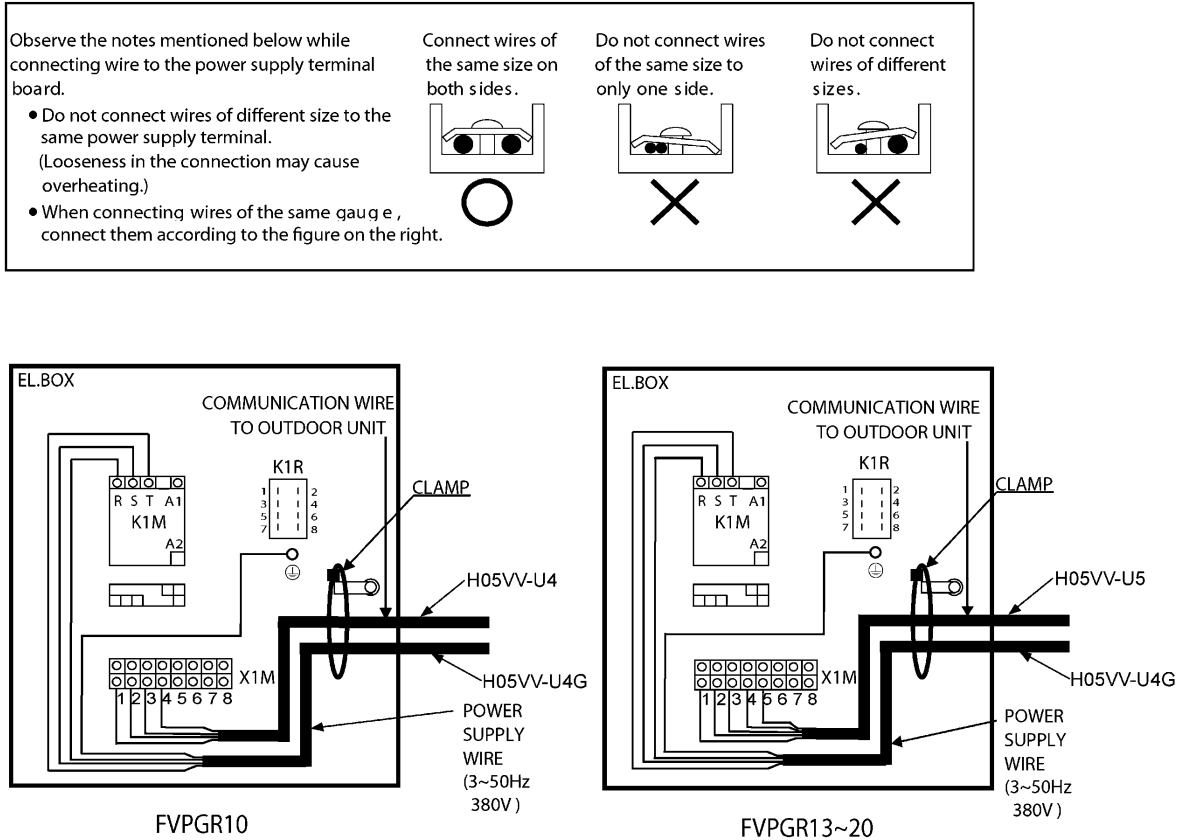

FIG 7 (WIRING DIAGRAM)
- For electric wiring work, refer to the "WIRING DIAGRAM" FIG.7